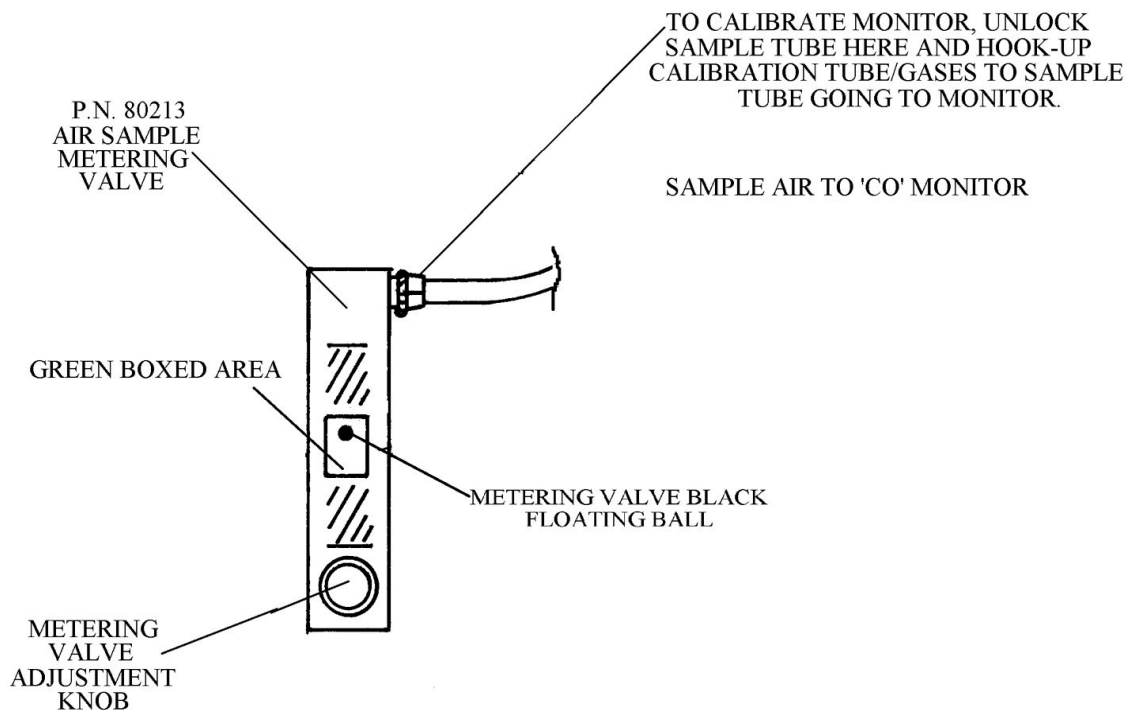

FIGURE NO. 2
Should you need to adjust the switch to some other setting, loosen the four (4) screws located at the four corners of the housing and carefully lift off front cover to expose the pressure switch and internal wiring (see Figure No. 2). Locate the white adjustment dial located at the base of the pressure switch. Note: The numbers located on the adjustment dial are for approximation only - **DO NOT** assume the setting noted on the dial is the alarm set pressure. Adjust the system pressure to alarm set point level desired and turn the adjustment dial until the unit just activates the alarm. Slowly increase the system pressure above this setting until the alarm stops. Slowly lower the system pressure until alarm activates. Note the system pressure, and if this is the desired alarm set point, the unit is ready for operation. Readjust if necessary and replace front cover.
1) **SUPPLIED AIR HOOK-UP** - MST Unit's inlet is supplied with 3/8" NPT female threads for customer hook-up (C). MST suggests the supplied air be regulated to a maximum pressure of 100 psi and free of water and/or oil and dirt particles.
2) **POWER MONITOR AND CALIBRATE** - Plug in the 120 VAC continuous power adapter (A) into a dedicated 120 VAC outlet. At this time, to avoid hearing the loud Remote Audible Alarm (I), the alarm can be disconnected during the calibration procedure by disconnecting alarm at (J). **WARNING:** Be sure to reconnect the Remote Audible Alarm when calibration is complete. After a five (5) minute warm-up period, calibrate the monitor according to the MST Monitor Manual.
5) **LOW PRESSURE WARNING SYSTEM AND MONITOR SAMPLE FLOW ADJUSTMENTS** - After the monitor has been calibrated, turn off the monitor and reconnect the Remote Audible Alarm (I). Turn the black flow control knob of flowmeter (D) clockwise to make sure it is turned off. Connect your compressed air to the inlet (C). Now carefully turn the black flow control knob counter-clockwise to open the valve. Open just enough to keep the black ball floating about mid-range in the green "safe zone" area of the flow meter (refer to Figure No. 2).